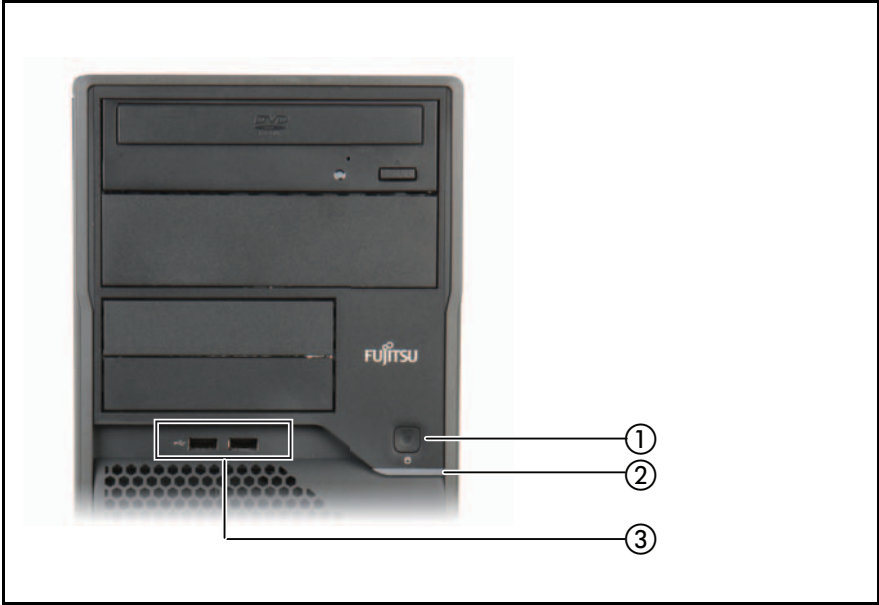

Figure 5: Front panel
Two additional USB connectors are located on the front of the server (see figure 5 on page 52).
- ▶ Press the On/Off button (see item 1 in figure 5 on page 52).